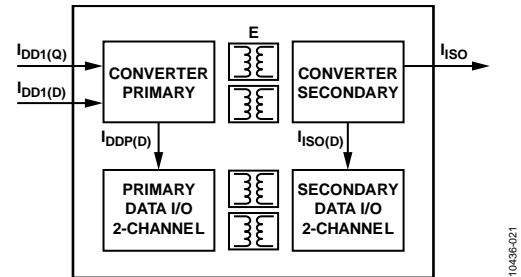

Figure 27. Power Consumption Within the ADuM5200W/ADuM5201W/ADuM5202W
The VDD1 power supply input provides power to the iCoupler data channels as well as to the power converter. For this reason, the quiescent currents drawn by the data converter and the primary and secondary input/output channels cannot be determined separately. All of these quiescent power demands have been combined into the IDD1(Q) current shown in Figure 27. The total IDD1 supply current is the sum of the quiescent operating current, dynamic current IDD1(D) demanded by the I/O channels, and any external IISO load.